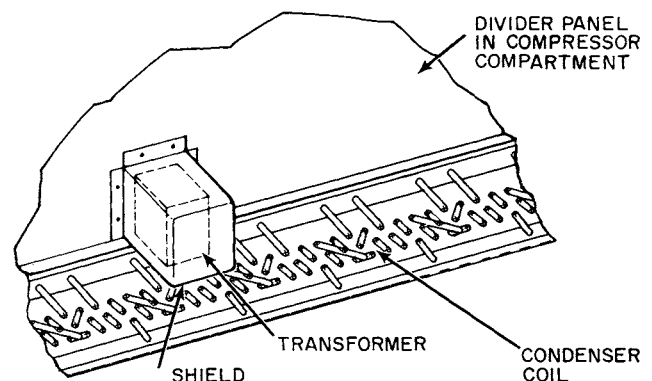

Fig. 4 — Transformer Mounted on Divider Panel
1. Mount transformer to divider panel above condenser coil inside compressor compartment. Holes must be field drilled. Fasten with 1/4 - 20 thread cutting screws. See Fig. 4. Exact mounting location of transformer is at discretion of installer. There are no wires or obstructions on reverse side of divider panel to interfere with mounting screws.